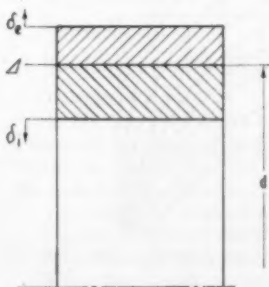

Fig. 1. Pressure joint consisting of two components having the same width
The graphs apply to pressure joints of the type shown in Fig. 1, consisting of an outer and an inner component of the same width. The components can be considered as narrow, and therefore the axial stresses may be disregarded and the stresses existing in the transverse radial plane only need be taken into consideration.
When determining the reduction in bearing clearance the expansion of the inner ring on the shaft and the contraction of the outer ring in the housing can therefore be read off from the same graph, provided that the bearing, housing and shaft are made of the same material. In the former case the bearing ring is regarded as the outer component of the joint shown in Fig. 1 and in the latter case as the inner component. In the special cases of either a solid shaft ($c_i=0$) or a very rigid housing ($c_e \approx 0$), equation (5) is further simplified to